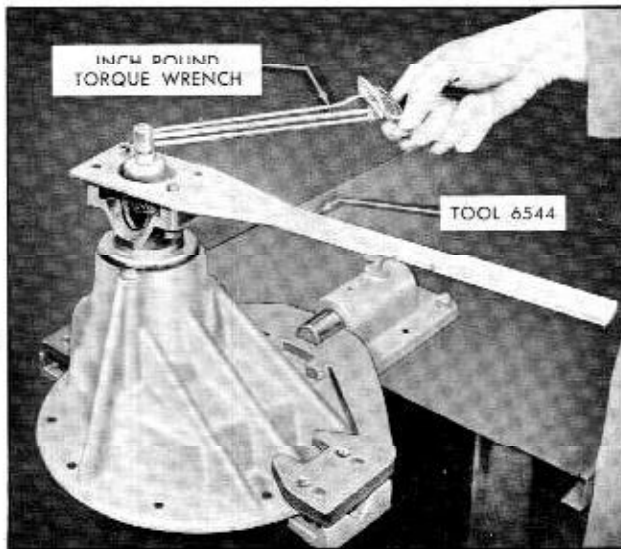

Fig. 6-19 Measuring Bearing Preload With Torque Wrench
1. Check pinion bearing pre-load with an inch-pound torque wrench as shown in Fig. 6-19. Pre-load should be within 10 to 15 in. lbs. for old bearings, 24 to 32 in. lbs. for new bearings.